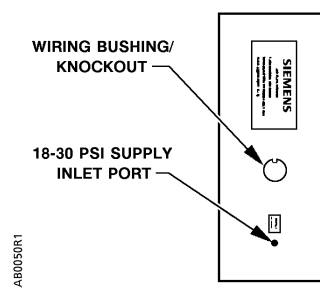

Figure 8. FHET Pneumatic Piping Connection.
2. Connect the supply air line to the barbed supply inlet port on the side of the equipment enclosure (See Figure 8).